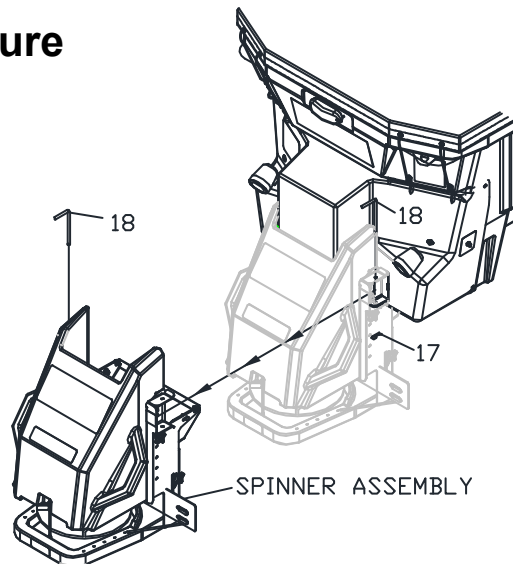

Figure 15. Spinner Assembly Attach G10774
2. Refer to Figure 15. Unplug Spinner Assembly Harness. Remove Cotter Pins (17) and Attachment Pins (18)
4. Insert Attachment Pins (18) and Cotter Pins (17) back into Spinner Assembly for storage.